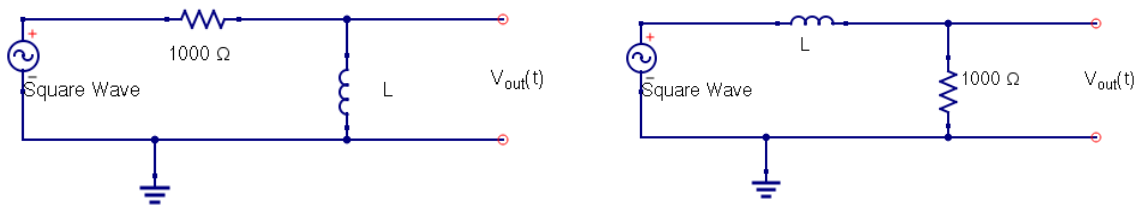

Figure 4: Left: RL based integrator. Right: RL based differentiator.
For a RL (resistor+inductor) circuit (Figure 4), the $t_{1/2}$ for a RL circuit,
1. Calculate the time constant for the circuit shown on Figure 4-left
2. Calculate the inductance (L) of the circuit using time constant measurement.
5. Build the circuit shown on Figure 4-left, use the inductor in the RLC board.